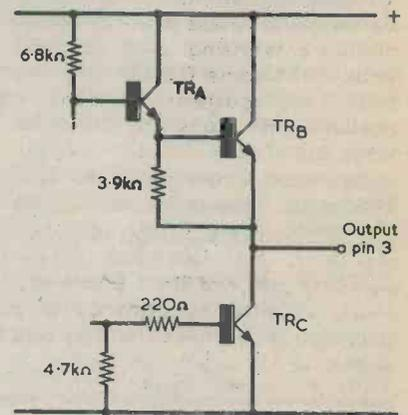
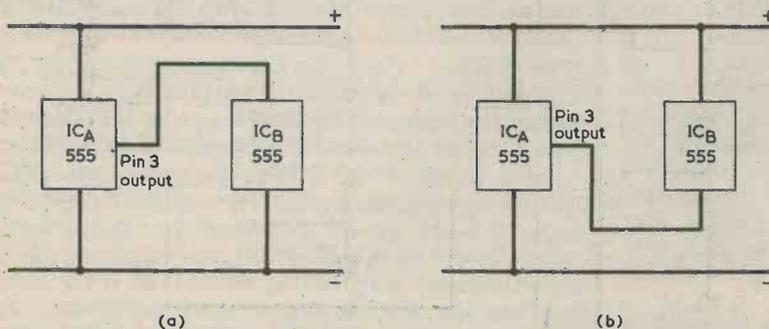

Fig. 2. The internal output stage circuit of the 555. Resistor values are nominal
Fig. 1(a). One way of using a 555 i. c. to switch another 555. The second i. c. is turned on when the output of the first goes high
the backing paper, $\frac{1}{4}$ in. wide, at one of the $2\frac{1}{2}$ in. edges. Wrap the Fablon around the ferrite rod with the exposed strip last, so that it secures the tube thus formed. The rod should be able to move in the tube easily but without wobble. Cut a piece of $\frac{3}{8}$ in. wood dowelling $\frac{1}{2}$ in. long, wrap a turn or two of Sellotape around it to ensure that it is a tight fit and insert it at one end of the tube. Drill a $\frac{1}{4}$ in hole through the tube and the middle of the dowelling as shown in Fig. 2(f). Insert the rod into the tube to strengthen it and, starting $\frac{1}{4}$ in. from the end remote from the dowelling, wind onto the tube 25 turns of 26 s.w.g. enamelled wire, spacing out the turns so that the winding ends $\frac{5}{8}$ in. from the dowelling end of the tube. Use Sellotape to secure the winding ends, but not along the coil.
Mount VC1, VR1 and VR2/S2 to the item of Fig. 2(a) as shown in Fig. 2(i) and Fig. 3 A piece of
Fig. 3. Assembly and wiring of the components. The item of Fig. 2 (g) is omitted for clarity. Note how each setting of S1 allows the ferrite rod to move to a different position inside the coil. Before wiring to S1 confirm with a continuity tester the six outer tags corresponding to the inner switch arm tag. Similarly check the appropriate tags of S2 before wiring to it.
metal foil or thin metal sheet, about 2in. square with a $\frac{3}{8}$ in. hole at the centre, should be fitted between VC1 and the panel to overcome hand capacitance effects. Mount the coil assembly in the following manner. Pass a 1in. 6BA countersunk bolt through hole R of Fig. 2(b) and secure it on the inside with a 6BA nut. Pass the hole at the dowelling end of the coil over the bolt and secure the coil with another nut. Secure with nuts on the inside a 1in. 6BA countersunk bolt at hole P, and a $\frac{1}{2}$ in., 6BA countersunk bolt at hole M. Put two 6BA nuts, locked together, at the end of each bolt. The nylon cord passes over the bolts and the locked nuts prevent it slipping over the bolt ends.
Cut out the item shown in Fig. 2(g) and secure the bush of S1 to this. Fit the $1\frac{1}{2}$ in. drum to S1 spindle with the cord hook away from the switch and
the drum bush well against that of the switch. Make a loop in one end of the nylon cord and pass it through the hole in the side of the drum and over the cord hook. (The cord is fitted to the drum now as it is difficult to reach the hook later). Slip the item of Fig. 2(g) over two 1in. countersunk 4BA bolts passing through holes H and K of Fig. 2(b) and adjust the spacing nuts shown in Fig. 2(h) so that the forward surface of the drum presses lightly against the item of Fig. 2(b). Fit a solder tag over the bolt passing through hole H, then add a third pair of nuts to hold the assembly firm. The pressure on the drum should be just enough to add a little stiffness to the rotation of S1 spindle. The solder tag provides an anchor point, when wiring is carried out, for one of the connections to VR3.
Now fit the 10-way tagstrip to the section of Fig. 2(e) so that it takes up the position shown in Fig. 3. Two 4BA nuts and bolts are required here. The tagstrip is cut from an RS Components "Standard" 28-way tagstrip such that two of the tags which also provide mounting appear at the points marked ZA and ZB in Fig. 3. The tagstrip is secured at these two points with 4BA bolts and nuts. There will be a further mounting tag on the tagstrip but this is not employed for mounting purposes. Wire in small components as in Fig. 3, at this stage, omitting components and wiring between panels and, also, the telescopic aerial and VR3. Assemble the "chassis" to take up the form shown in Fig. 2(i). The telescopic aerial can then be fitted. A solder tag held under its base allows connection to be made to it.
s.r.b.p. item which was cut out at the same time as that of Fig. 2(e).
In Fig. 1 (a) the output of ICA controls the operation of ICB, turning on the latter when ICA output is high. The operating current of ICB (and its immediate circuitry) is supplied, when it is turned on, through the output stage of ICA. In Fig. 1 (b) a similar situation is given, except that ICB is turned on this time when the output of ICA is low. Again, the operating current for ICB is provided by way of the output stage of ICA.
At first sight, there may appear to be little to choose between the two modes of operation but, when we look at the internal output stage inside the 555, we find that there are considerable differences. This output stage is shown in Fig. 2. When the 555 output is high, the high
voltage is maintained by the current passing through the 6.8K Ω resistor into the input base of the Darlington pair consisting of TRA and TRB. The bottom transistor, TRC, is cut off. It will at once be apparent that, even with a negligibly low load current, the output voltage must be less than the positive supply rail voltage by the base-emitter voltage drops in TRA and TRB these drops totalling about 1.2 volts. Further, the output voltage regulation, although quite adequate for normal 555 applications, is by no means perfect, and the output voltage can fall noticeably as load current increases. If, therefore, the switching circuit of Fig. 1 (a) is employed, the supply voltage provided through ICA to turn on ICB will be at least 1.2 volts below the positive rail and can be lower again if ICB draws a high current.
Returning to Fig. 2 the output state given when the 555 output is low is provided by having TRA and TRB cut off, and TRC turned hard on. In this case the voltage drop between TRC emitter and collector will be typically less than 0.1 volt at low currents, rising to only slightly higher than some 0.2 volt at quite high load currents. Currently available 555 i.c.'s appear to be particularly good in this respect, those checked by the author exhibiting less than 0.2 volt drop at load currents of the order of 25mA and more. In consequence, the switching circuit of Fig. 1 (b) offers a better potential performance than does that of Fig. 1 (a): it allows very nearly the full supply voltage to be applied to the 555 which is controlled, and the applied voltage has good regulation. A further point not yet considered is that an unwanted amplification loop could be set up between the two i.c.'s when they share a common impedance. In Fig. 1 (b) the common impedance is a transistor which is turned hard on, and this can be almost completely relied on to break such a loop. As we shall see shortly, there can be another reason for preferring the approach shown in Fig. 1 (b).